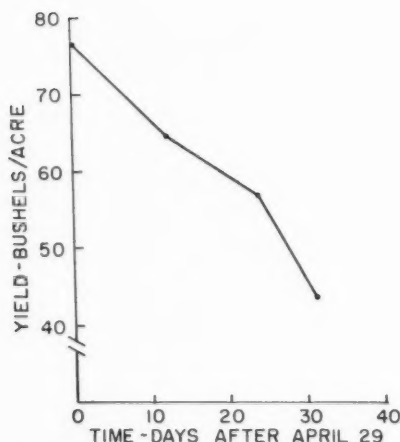

Fig. 2 An example of the influence of planting date on corn yield from a trial at Ames, Iowa, in 1949. From Rubis(3)
The revenue curve reflects the timeliness factor in any field operation. In planting corn, for example, there is an optimum time to plant for maximum yield. Fig. 2 gives an extreme example of this situation as demonstrated by a date-of-planting test conducted by Iowa State College agronomists (3)\* in 1949. The actual number of days available